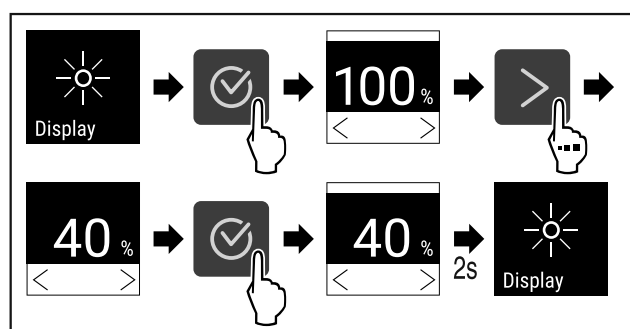

Fig. 81
- ▶ Complete the steps (see Fig. 81).